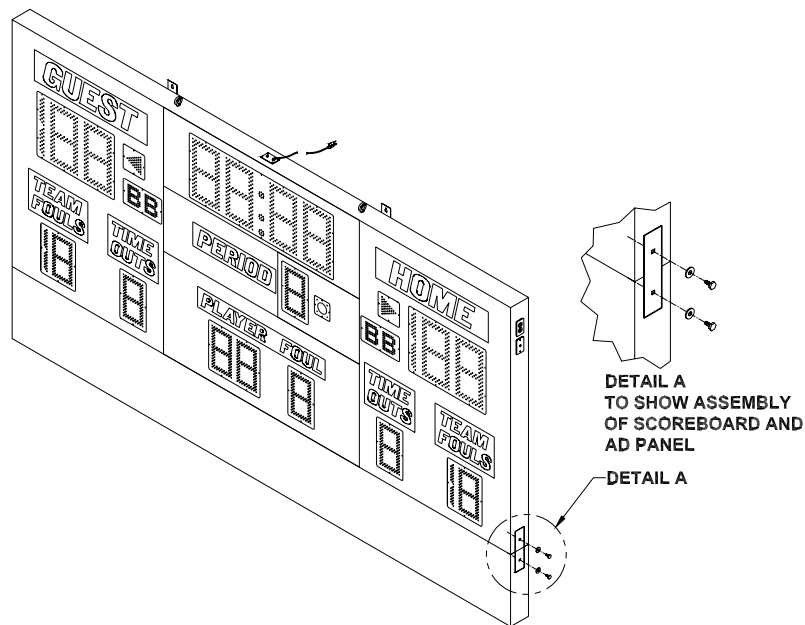

Figure 2 2770 with Bottom Sponsor Panel Attached
2. Fasten an attachment plate to the right side of the scoreboard and sponsor panel using the provided washers and bolts as shown in figure 2.